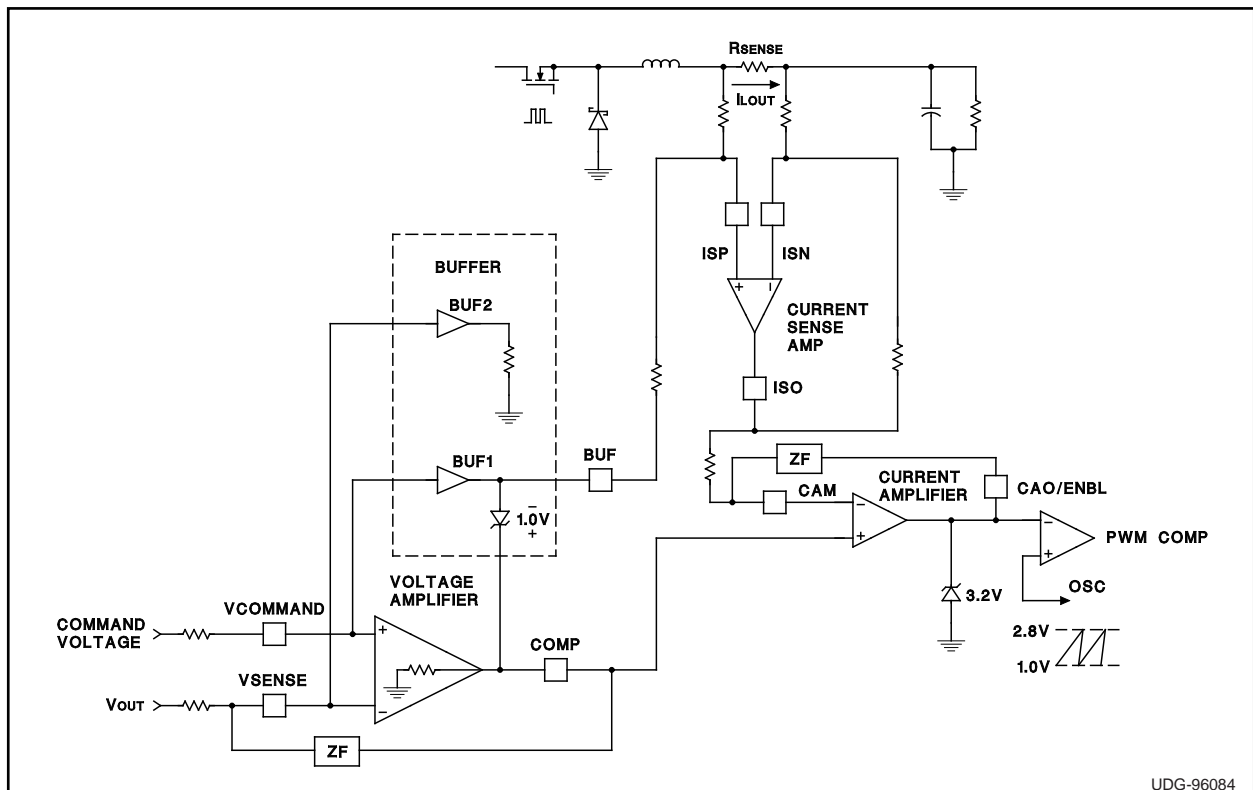
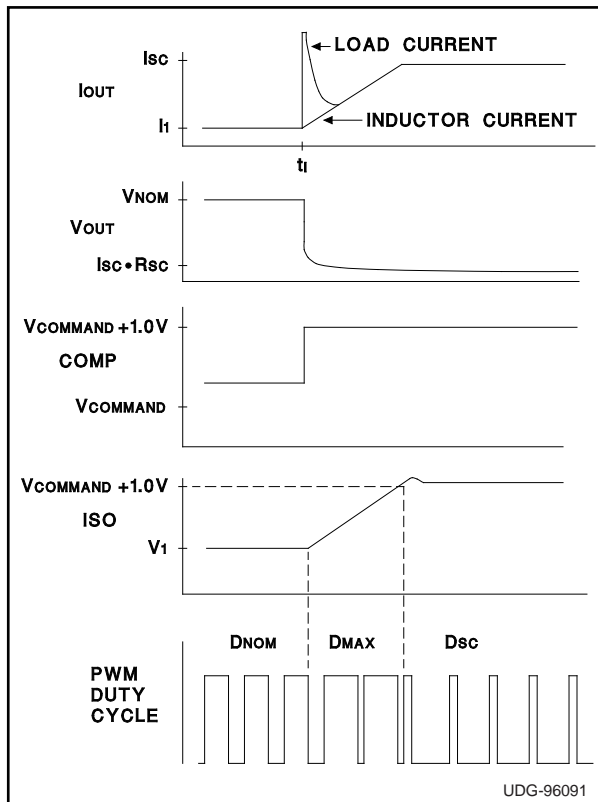

Figure 12. Configuring the UC3886 in Average Current Mode Control
Figure 19. Dynamics of Short Circuit Protection with the UC3886
The UC3886 Average Current Mode circuit blocks consist of the Voltage Amplifier, Buffer, Current Sense Amplifier, Current Amplifier and PWM Comparator. These blocks are shown in Figure 12 configured for Average Current Mode control in a Buck regulator.
An understanding of the dynamics of Average Current Mode control as shown in Figure 12 is necessary to better understand the individual blocks which make up the system.
- Buffers VSENSE for the sole purpose of minimizing the offset voltage at the Voltage Amplifier (BUF2 in Figure 12).
Figure 19 graphically represents the dynamics of a short circuit placed across the output of the Buck regulator of Figure 12 at time t1.